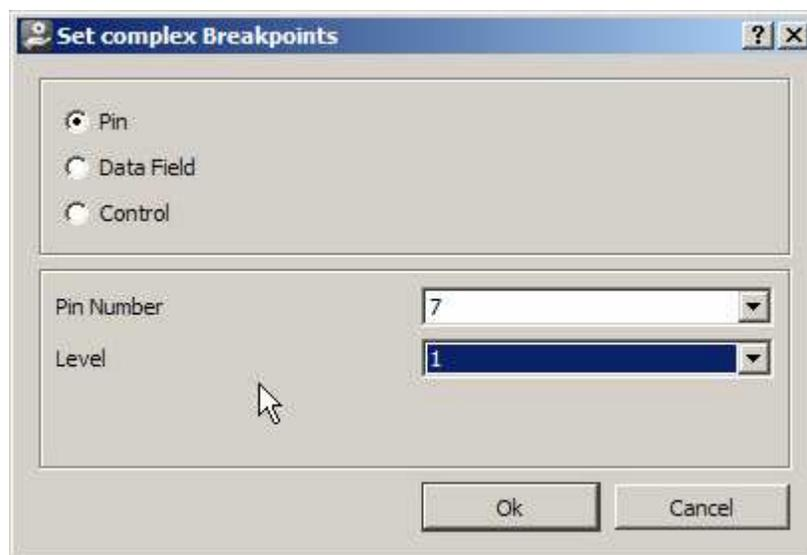

Figure 31. Configuring a Complex Breakpoint to Stop When Pin 7 is High
7. Select a "Pin" type breakpoint, then choose Pin Number '7' and a Level of '1' (see Figure 31).